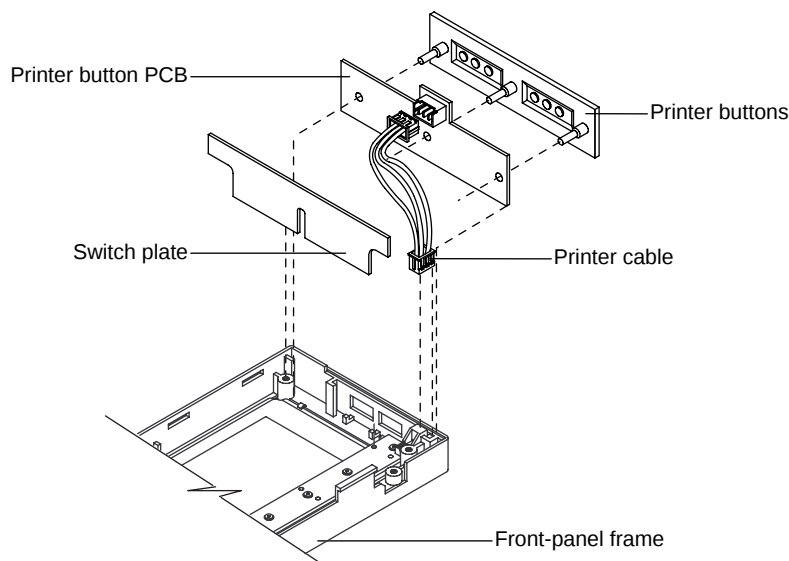
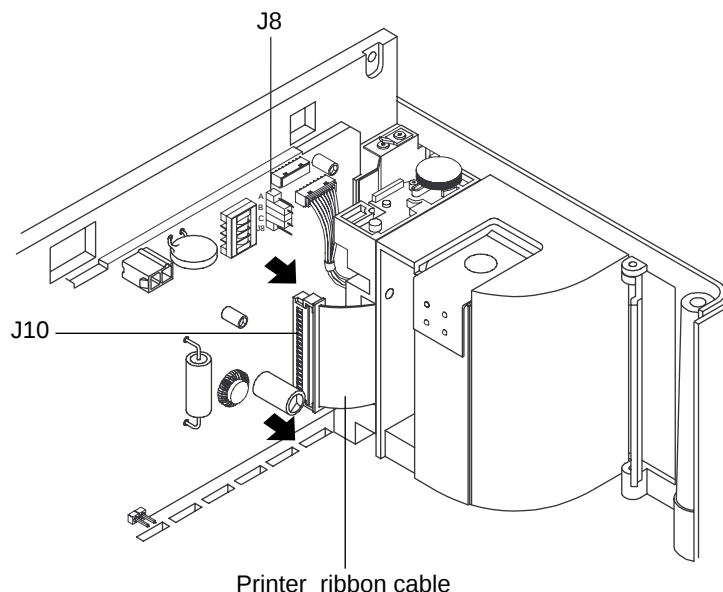
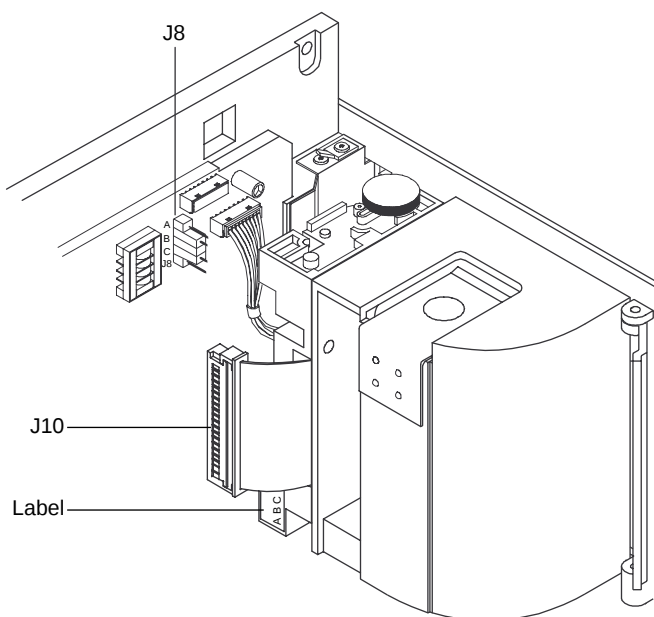

Figure 6-11: Removing Printer Button PCB
Figure 6-17: Removing Printer
Figure 6-19: Printer Jumper Connections
1. Disconnect the printer cable from the main button PCB as illustrated in Figure 6-11.
3. Disconnect the printer ribbon cable from the UIF PCB (illustrated in Figure 6-17). Disconnect the printer cable from the printer button PCB (illustrated in Figure 6-11).
4. Turn the N-3200 back over and release the printer ribbon cable from the UIF PCB by grasping both ends of cable connector J10 on the UIF PCB and lifting away from the PCB, as illustrated in Figure 6-17.
7. Before installing the replacement printer, the jumper on J8 (Figure 6-17) must be on the proper connectors to match the model of your replacement printer. The printer model (A, B, or C) is designated on the label attached to the printer (Figure 6-19). If necessary, remove the jumper from J8 and reconnect it according to Table 6-1, and as illustrated in Figure 6-19.